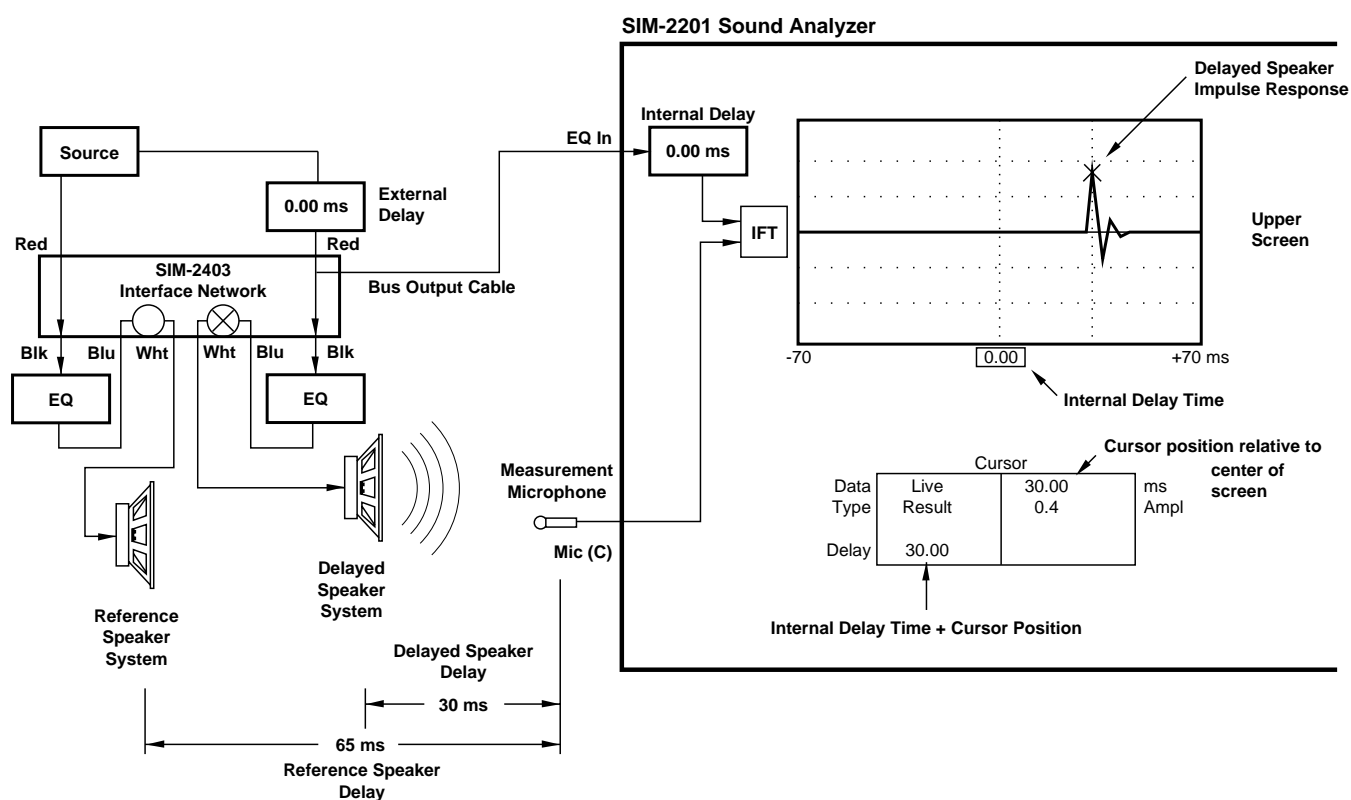

Figure 47a — Before Setting External Delay. In Single System Delay finder, Select Delayed Speaker Branch.
- 3) Select **Procedure: Single System** and **Measure: Delay finder**. The display should appear as shown in Figure 47a.